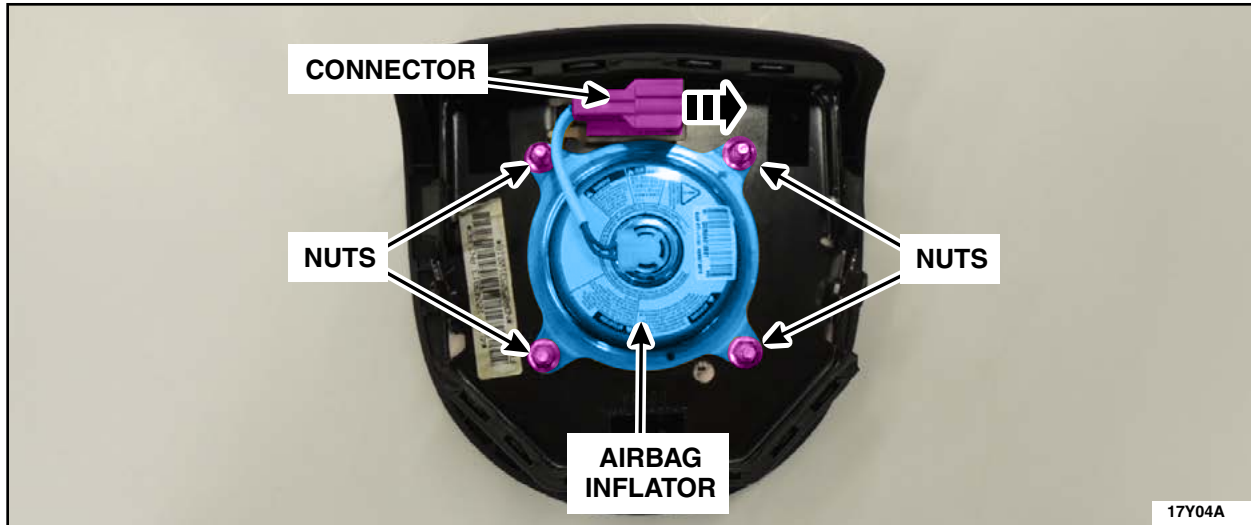

FIGURE 2
1. Release the retaining tab and slide the driver airbag inflator connector off of the tang. See Figure 2.
2. Remove and discard the four airbag inflator retaining nuts from the driver side airbag. See Figure 2.
Remove the airbag inflator and set aside for return shipping. See Figure 2.
5. **NOTE:** The *new* airbag inflator must be installed in the same orientation as the original part to ensure the inflator module and airbag harness electrical connector T-shape indexes are aligned properly. See Figures 2 and 4.